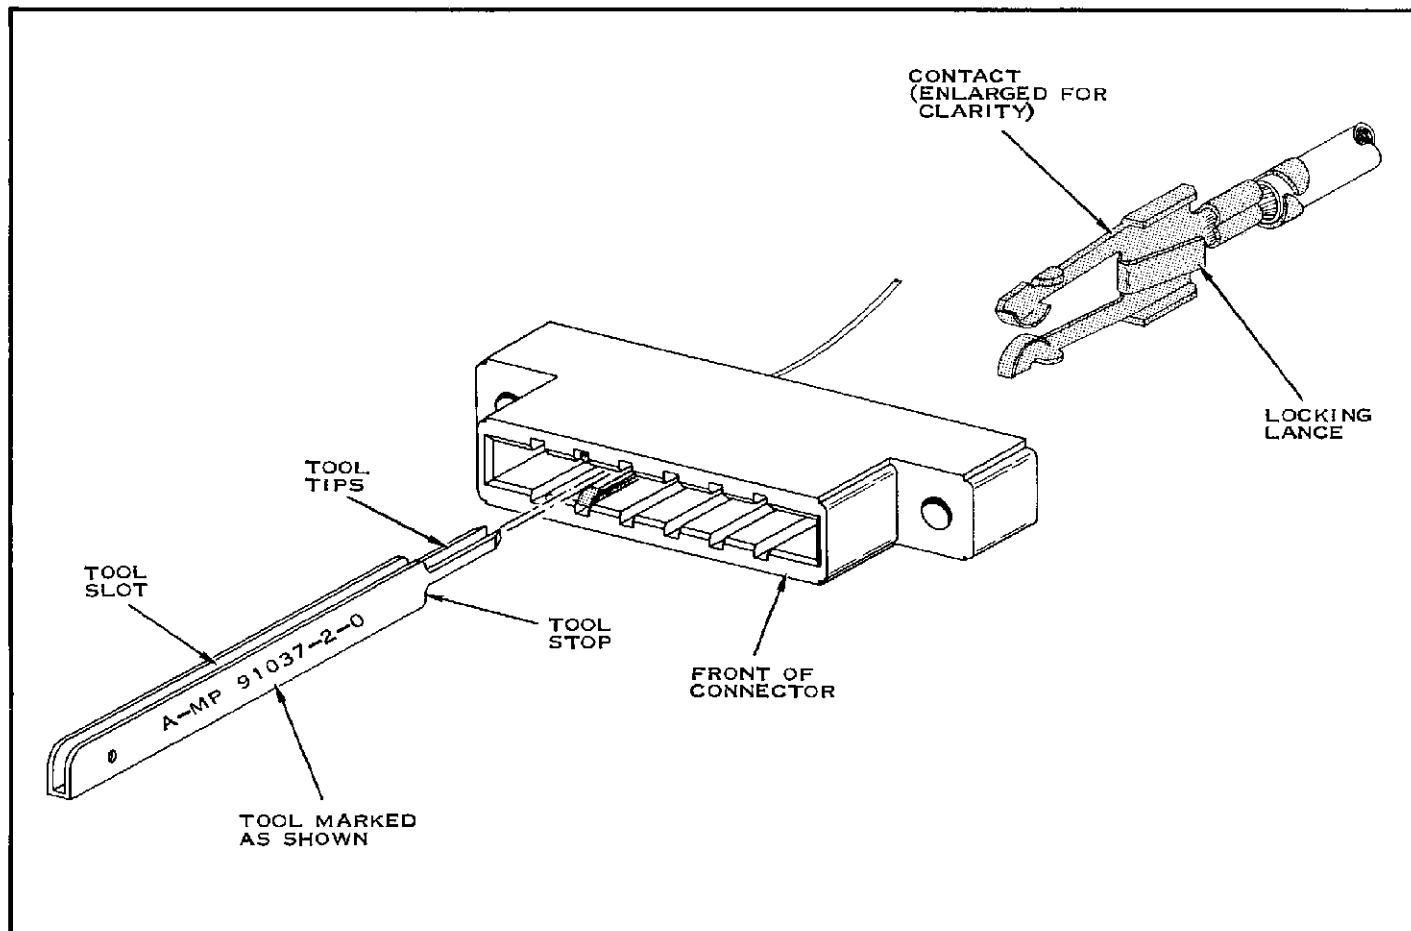

FIGURE 1
1. Align the tool so that contact will enter between the Tool Tips as shown in Figure 1.